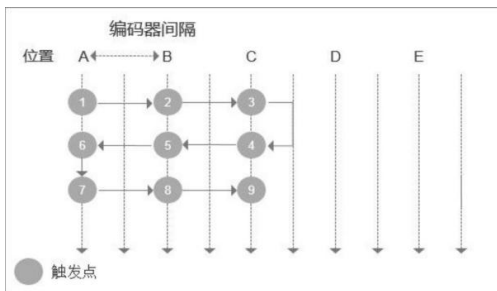

Figure 3.1.9 Bidirectional
(5) Bidirectional: The target object triggers scanning when moving both forward and backward. As shown in Figure 3.1.9.